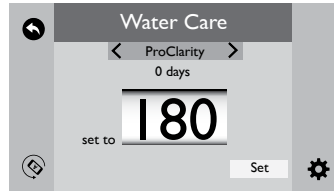
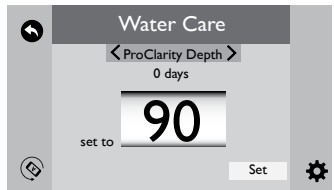
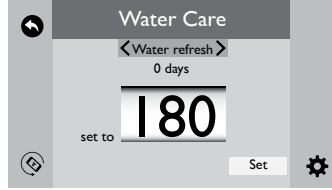

Figure 12.6e
Figure 12.6g
Figure 12.6i
1. When you enter the “Water Care” Menu, Figure 12.6c, tap < or > until you reach the “ProClarity” option, Figure 12.6e.
1. When you enter the “Water Care” Menu, Figure 12.6e, tap < or > until you reach the “ProClarity Depth” option, Figure 12.6g.
1. While in the “Water Care” Menu, Figure 12.6g, tap < or > until you reach the “Water Change” option, Figure 12.6i.